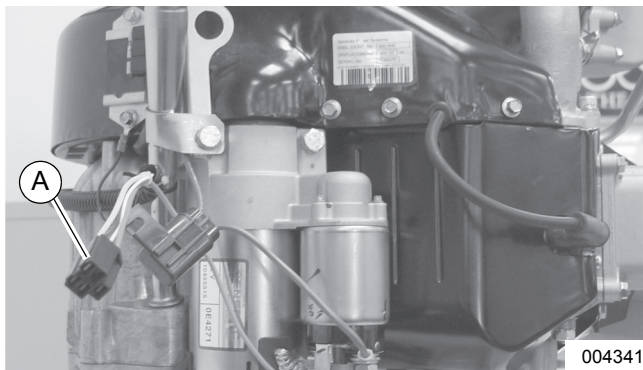
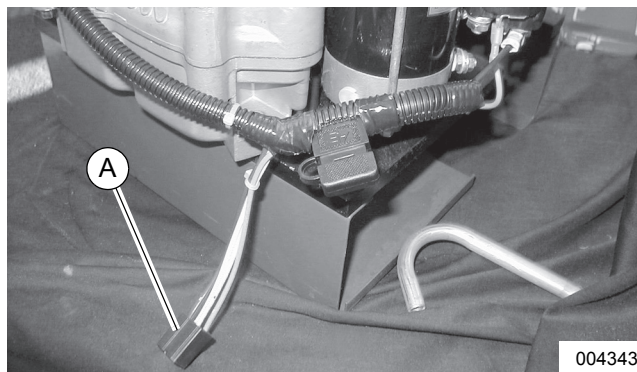

Figure 8-7. Packard Connector—Vertical Shaft
Figure 8-8. Packard Connector—Horizontal Shaft
See Figure 8-7 or Figure 8-8. Engines supplied with a wire harness have a four or five terminal Packard connector (A) on the harness. A typical wire harness consists of four colored wires as follows: